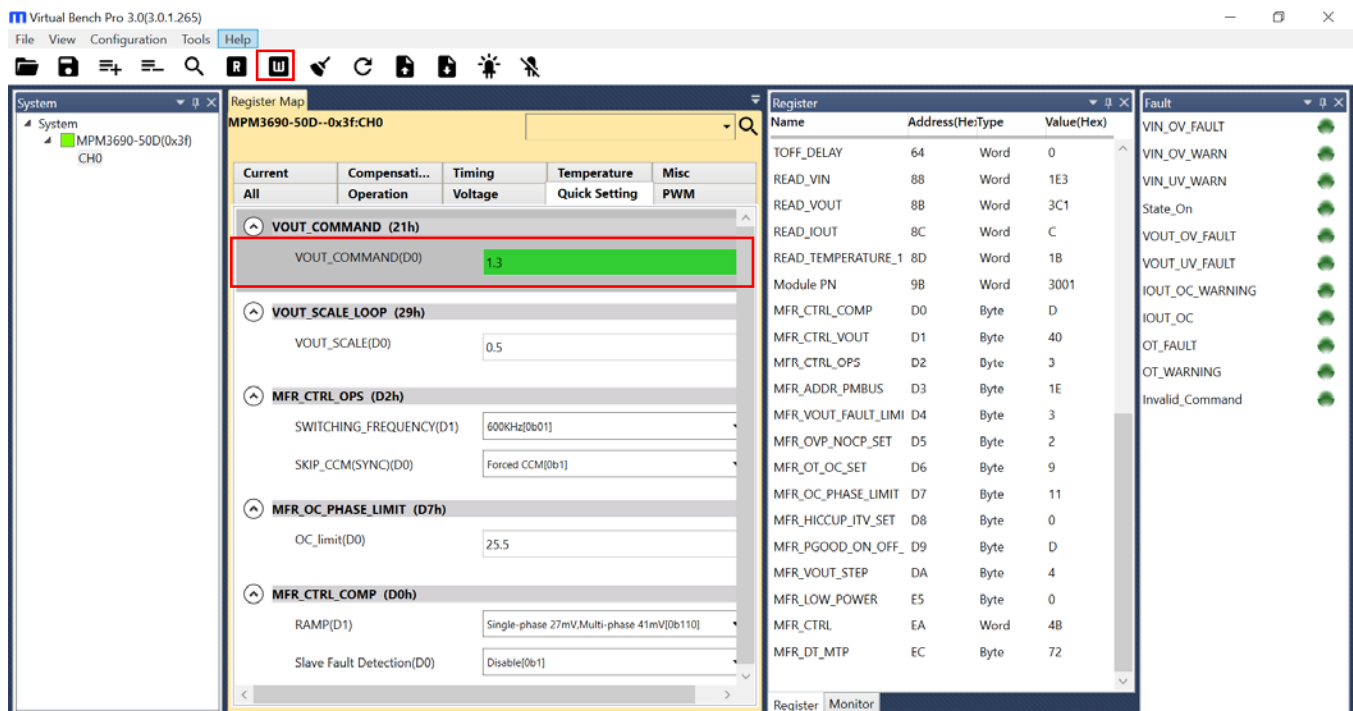

Figure 6: Write Values to Register
- Click the “Write to chip” button to write the desired values to the register (see Figure 6).